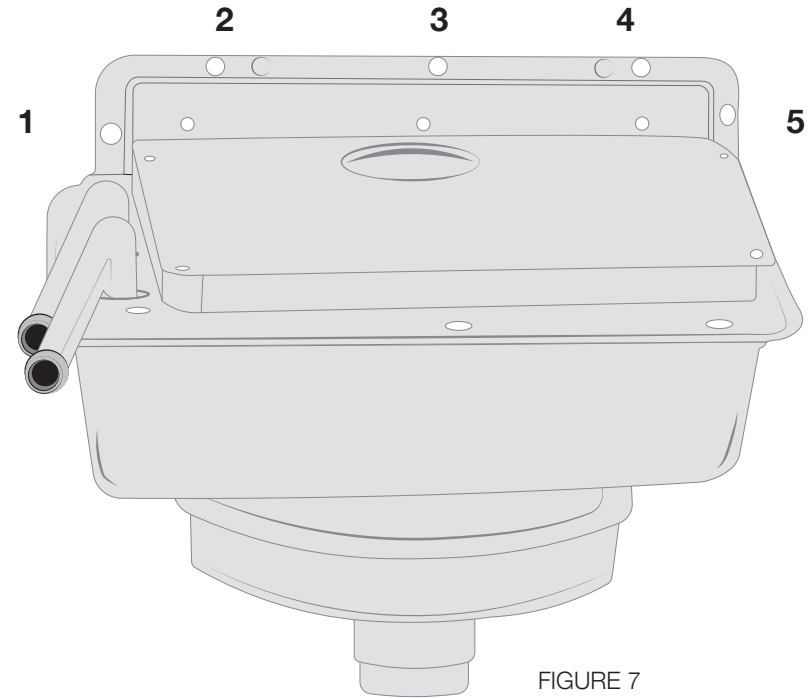

FIGURE 7
Located on the engine side of the firewall, remove five (5) bolts around the perimeter of the heater case housing (see Figure 7). Remove the housing (Discard).